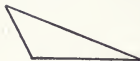

FIG. 23.
53. A **scalene** triangle (Fig. 23) is one having no two of its sides equal.